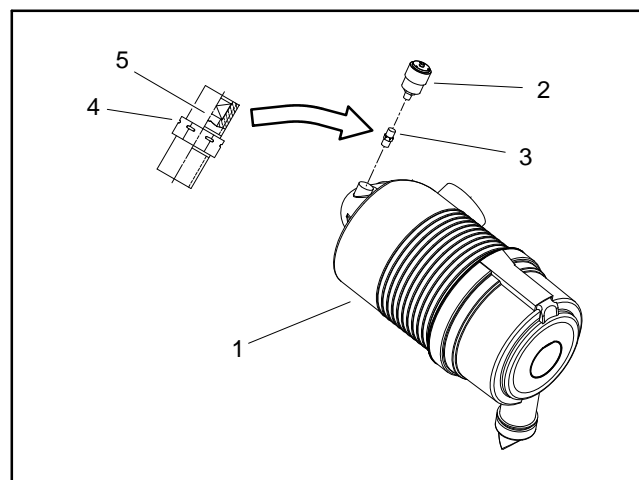

Figure 3
A. If service indicator (item 12) was removed from air cleaner housing, apply thread sealant to adapter threads before installing adapter and indicator to housing. Install adapter so that grooves in adapter hex and adapter filter element are installed toward service indicator (Fig. 3). Torque indicator from **12 to 15 in-lb (1.4 to 1.6 N-m)**.
C. Install air cleaner so air cleaner strap (item 9) is as close as possible to air cleaner cover.
D. Make sure that air cleaner hose (item 24) does not contact engine valve cover or other engine components. To modify clearance, move and/or rotate air cleaner body in air cleaner strap. Verify that tabs in strap mesh fully with slots in air cleaner body.